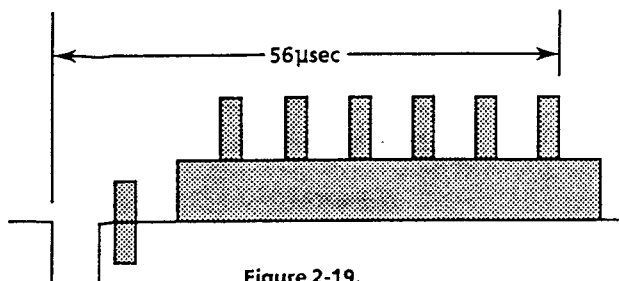

Figure 2-19.
3. Adjust C5901 so that the time period between the horizontal sync and last character is $56\mu\text{sec}$ as shown in Figure 2-19.